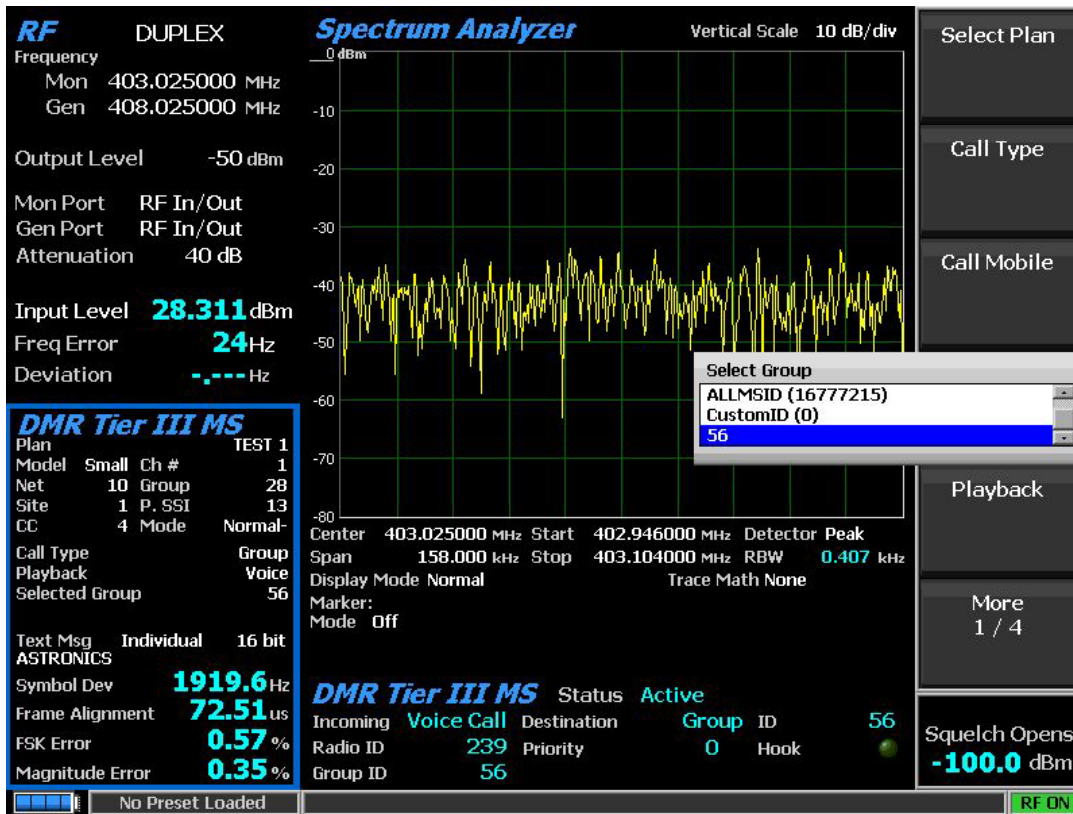

Figure 27 – Select Group Options
3. A drop-down list will appear (see Figure 27). This list will display the available groups that can be selected for called. Normally there will be three “all call” groups, the choice of a CustomID (#), and the group ID sent from radio during registration.